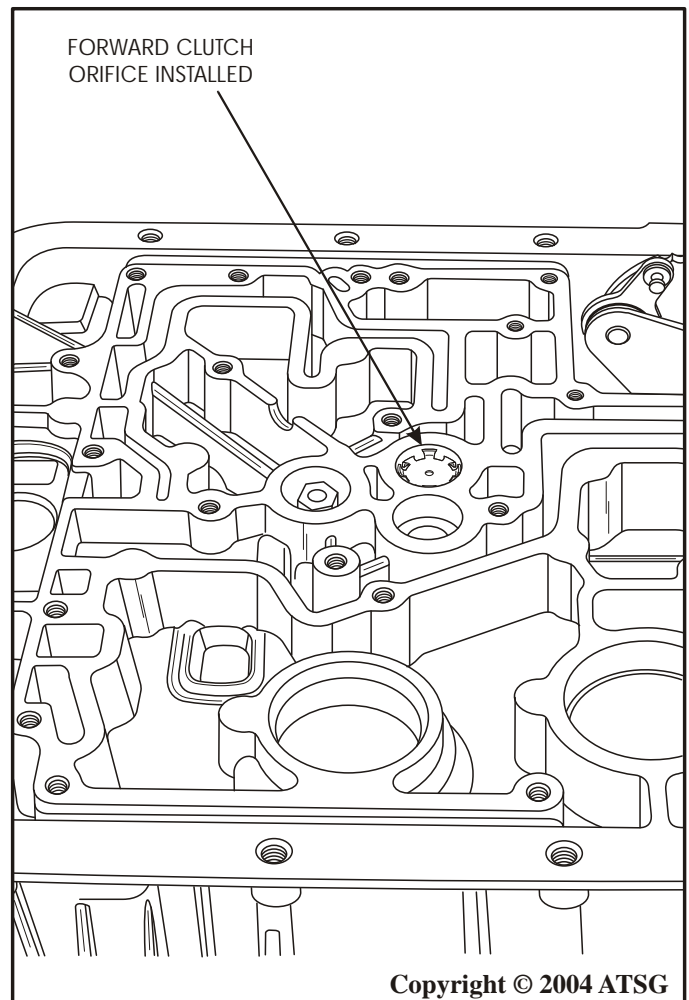

Figure 2
CORRECTION: Install the forward clutch feed passage, as shown in Figure 2. If the forward clutch orifice was missing, you will have harsh engagement into drive and the 1-2 shift will be OK. If you misplaced the forward clutch feed orifice into the intermediate clutch feed passage, you will have harsh engagement into drive along with a soft 1-2 shift.
- (1) LOW DIODE ASSEMBLY - Received a material change on all pieces of the low diode assembly and a small "Dimple" was added to one tooth of the inner race for identification, as shown in Figure 2.